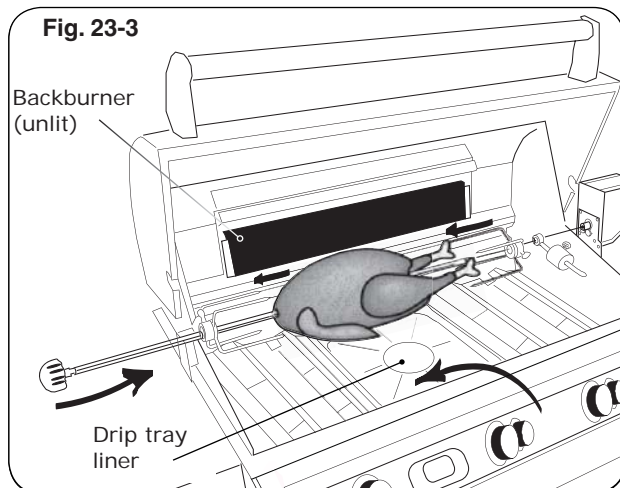

Fig. 23-3
4. Slide the left meat holder onto the rod (and tighten), the meat onto the rod and into the holder, followed by the right meat holder onto the rod and into the meat as shown in Fig. 23-3. Tighten the right meat holder. Be sure the meat is centered and balanced as well as possible.
11. To keep drippings off the burners and simplify cleanup, place Fire Magic® drip tray liners under the meat, if desired (Fig. 23-3).